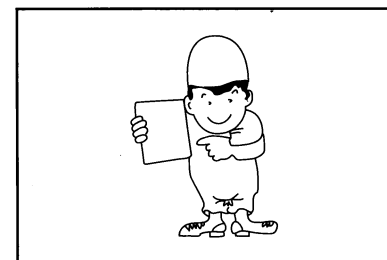

Figure1-24
- Please understand all regulations about operation, get known all the signals which are used in working process. If there are some grease on the operating area, please wipe it out immediately because it can result slippery. (Figure 1-24, 1-25)